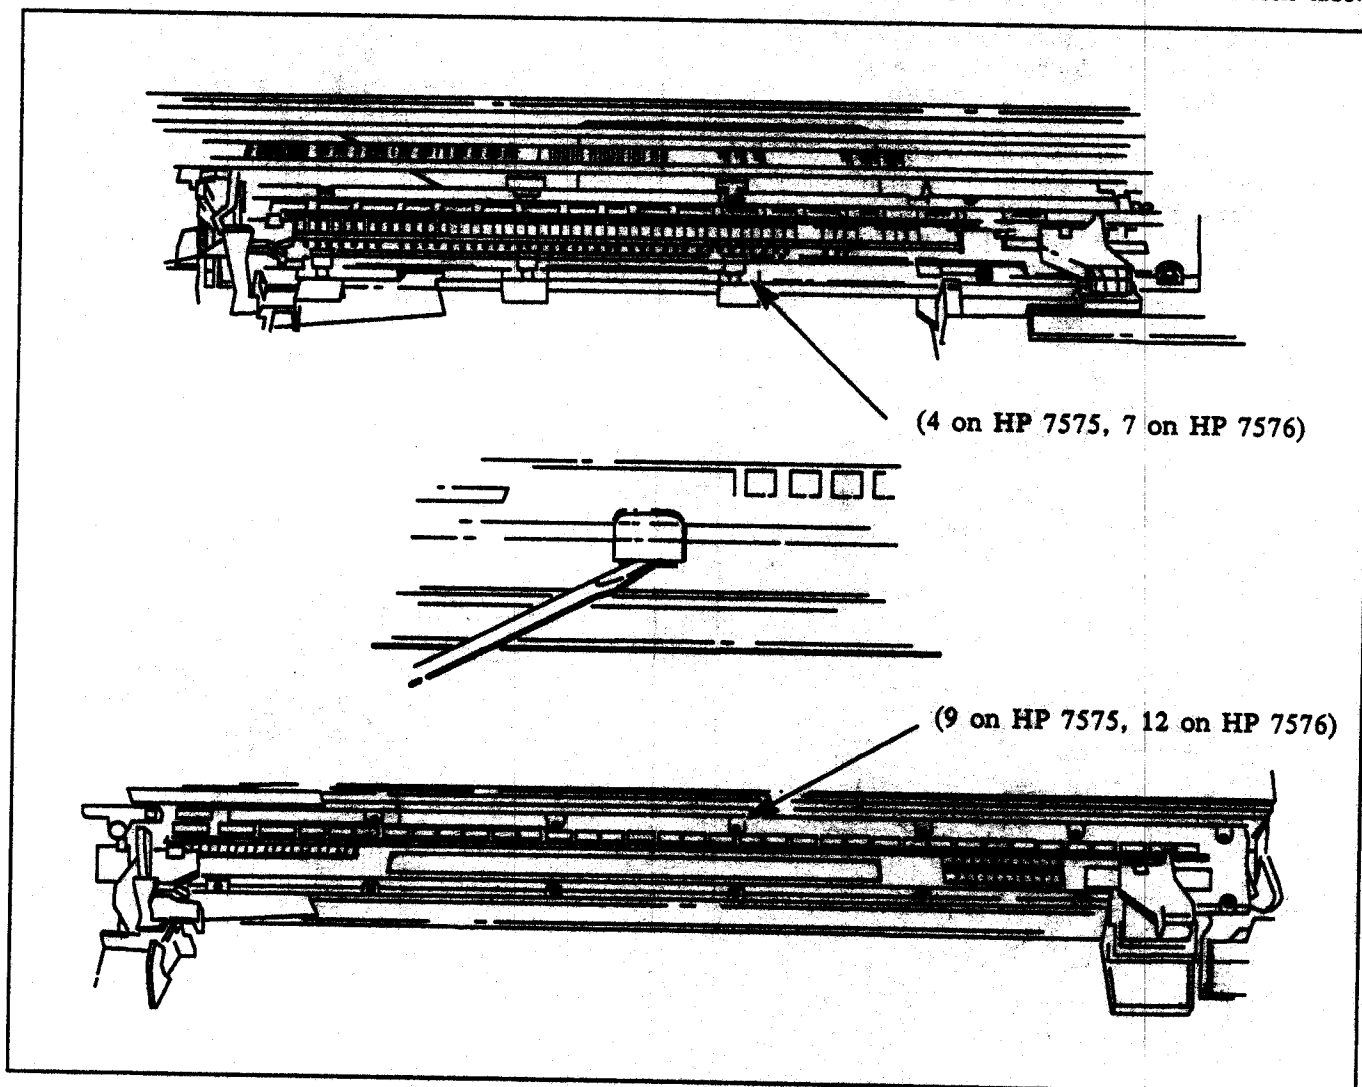

Figure 6-29. Center Platen Removal
h. Remove the press-in screw caps by gently prying them up with a flat-blade screw driver. See Figure 6-29.
i. Remove the Torx screws securing the center platen to the plotter. See Figure 6-29.